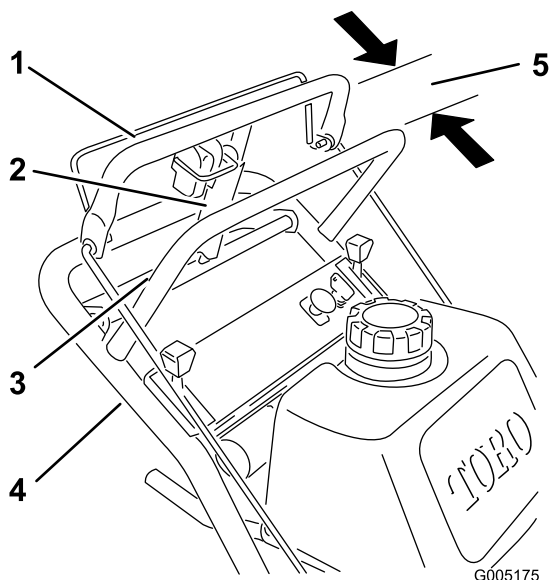

Figure 10
4. Check the gap between upper control bar and fixed bar with wheel drive fully engaged. Gap should be approximately 1 to 1-1/4 inch (25-32 mm) (Figure 10).